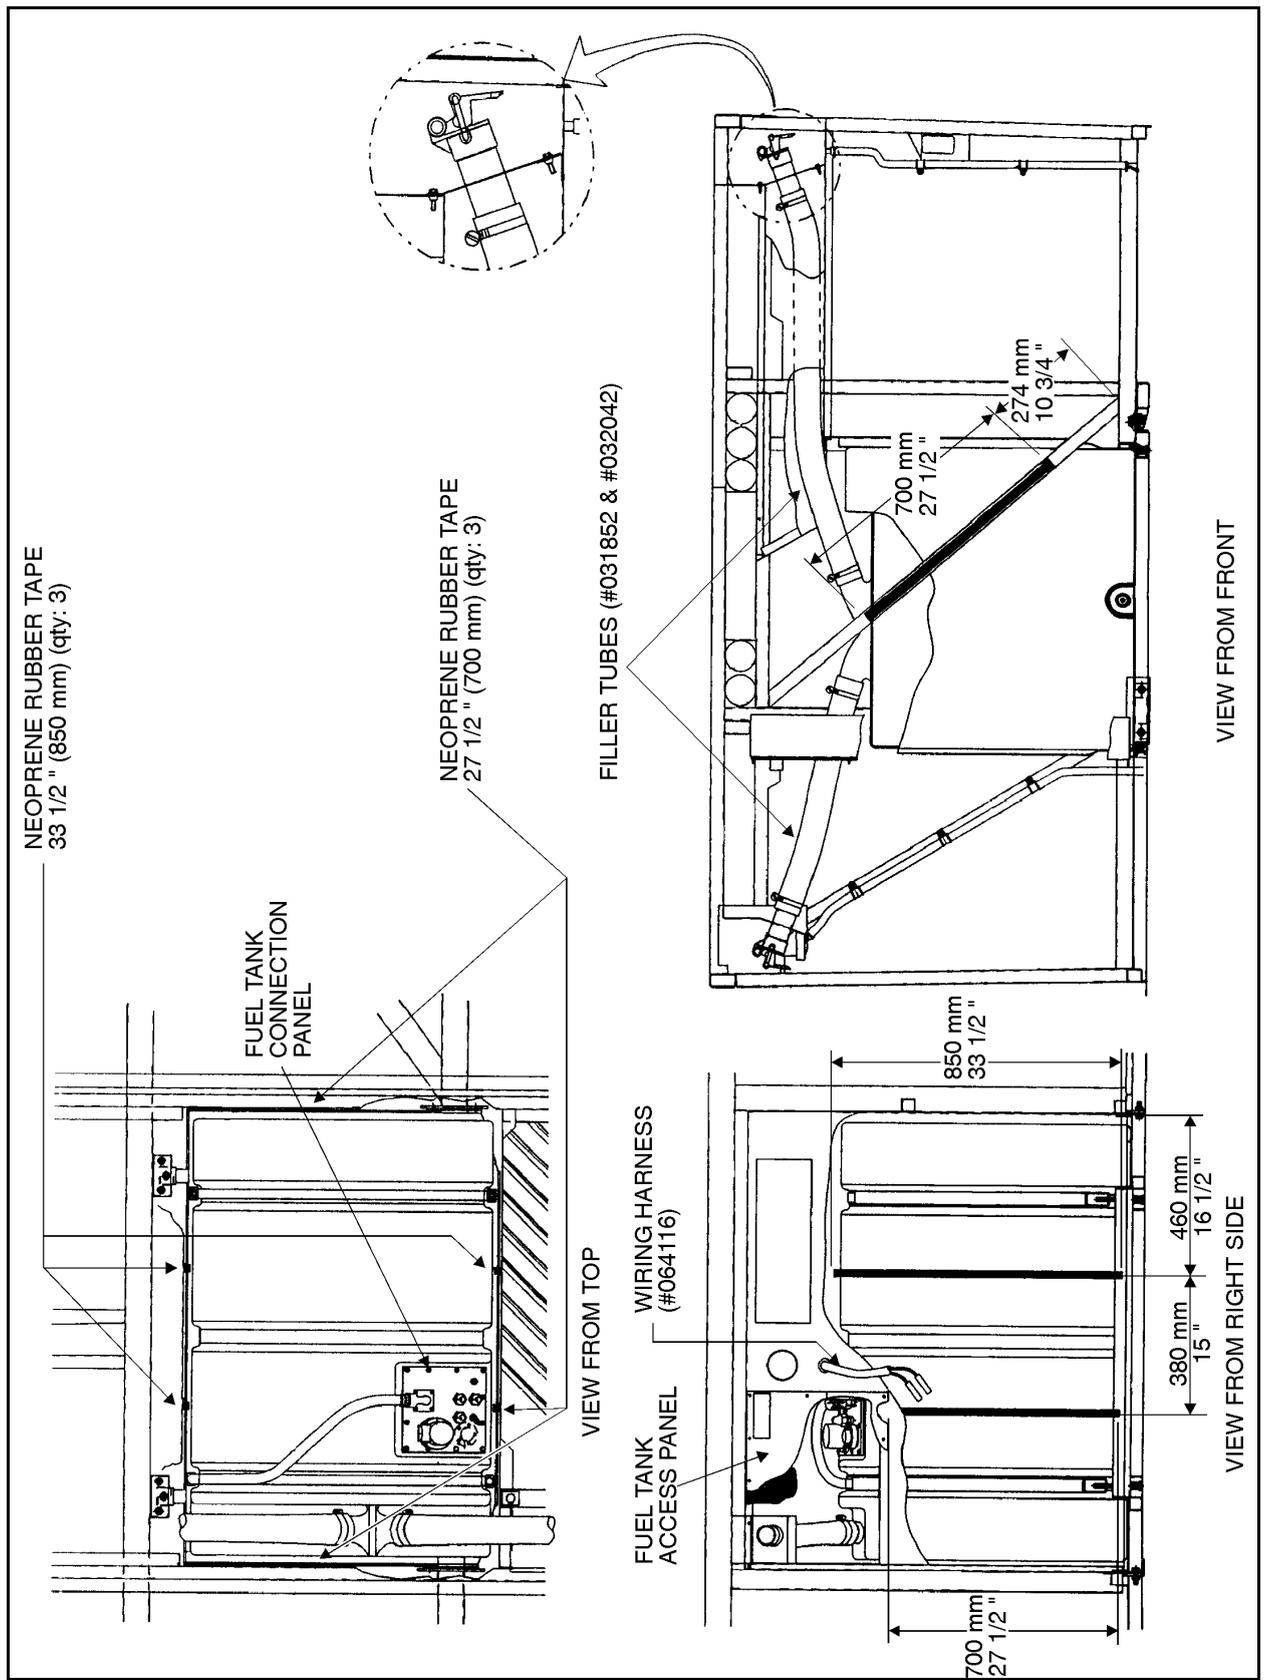

FIGURE 1: POLYETHYLENE FUEL TANK
5. Cut neoprene rubber tape (Prévost #506007) at appropriate length (33½" (850 mm), Qty:3; 27½" (700 mm), Qty: 3). Spray aerosol adhesive at the appropriate positions on the fuel tank section walls (Fig. 1). Install neoprene rubber tape on walls of fuel tank section.